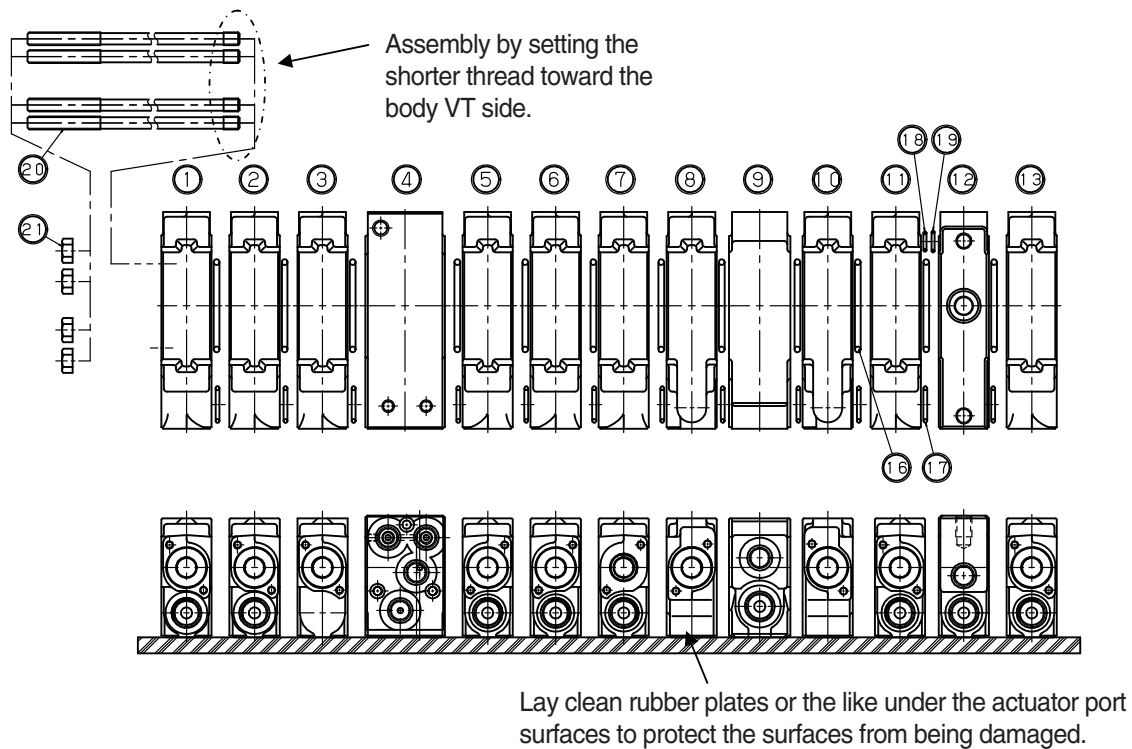

Fig.15 Body assy
(1) Assembling body work (see figure 15 and 16)
- ① On a surface plate with clean rubber plates on it, place component bodies with actuator port surface facing downward in the order shown in "Orders of assembling bodies" on the next page.